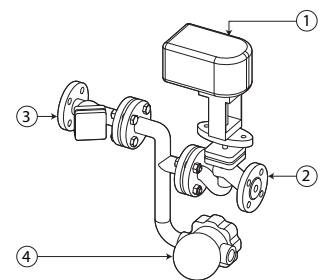

Fig. 4.b - European market only
- For threaded control valves, SAKV****U*, with an optional fitting kit, SAKR****U*, attach the fittings to the valve as shown in figure 4.a.
- Attach the ① optional actuator, SAKA****, to the ② control valve.